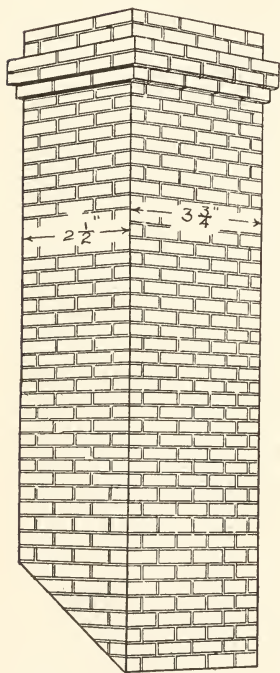

FIG. 227. — The Chimney.
**The Chimney** is a solid block of wood with narrow strips nailed to all sides near the top (Fig. 227). Make it eight or ten inches long, and cut off the bottom to fit the slant of the roof. Paint the block red, and mark off the mortar joints in white.